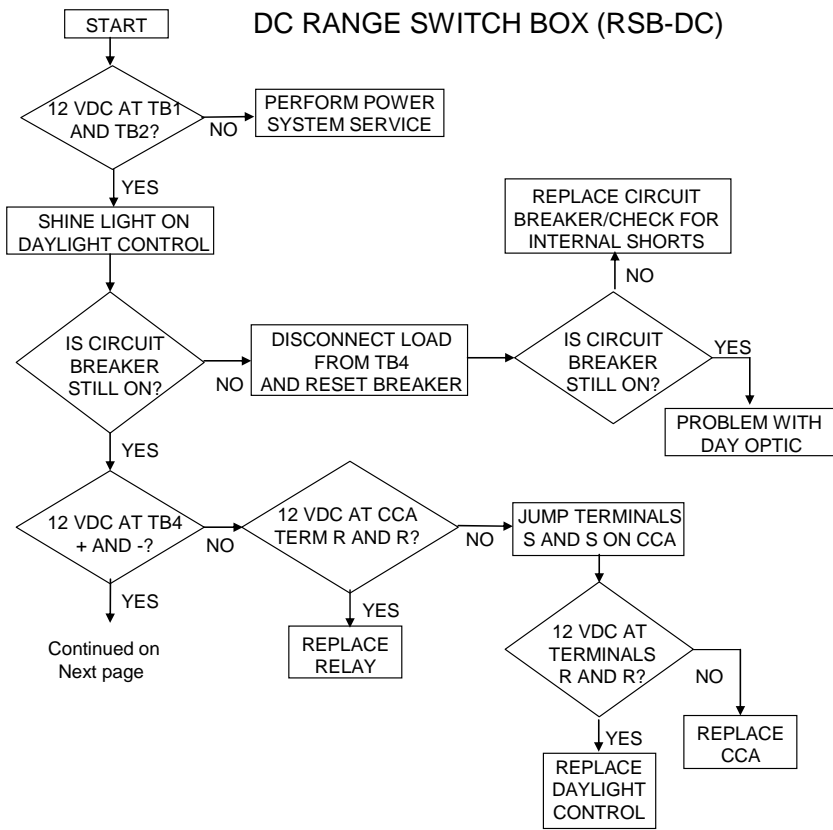

Figure 2-11
- (1) Note if the daytime light is on.
- (2) Cover daylight control and determine if the daytime light turns off and nighttime light turns on.
- (3) Check components for frayed wiring and corrosion. Replace or repair as necessary.
- a. The RSB-DC is simple in operation. During the daytime, the type-L daylight control causes the relay driver card to power the coil of the relay turning off the nighttime light and turning on the daytime light. The relay is an open model type that allows visual and audible indication that it is working. Voltage checks at various points (Figure 2-11) can be used to detect the cause of discrepancies: